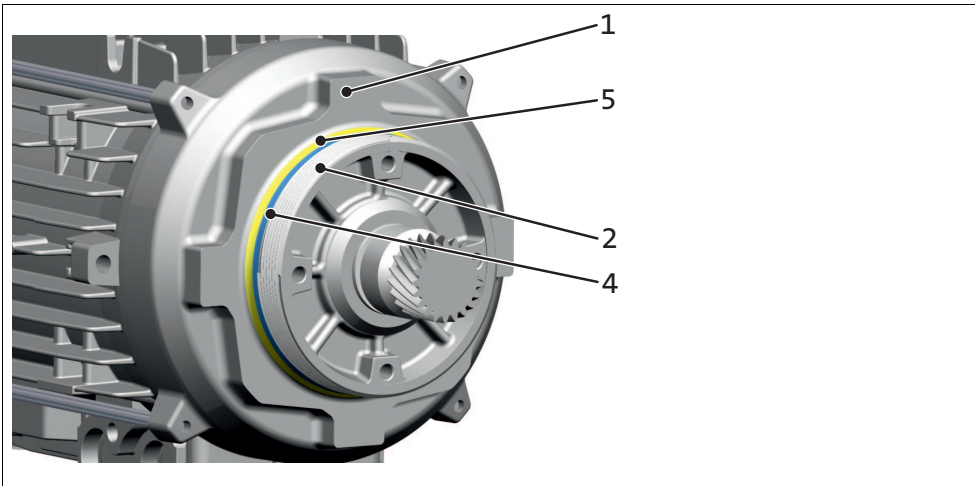
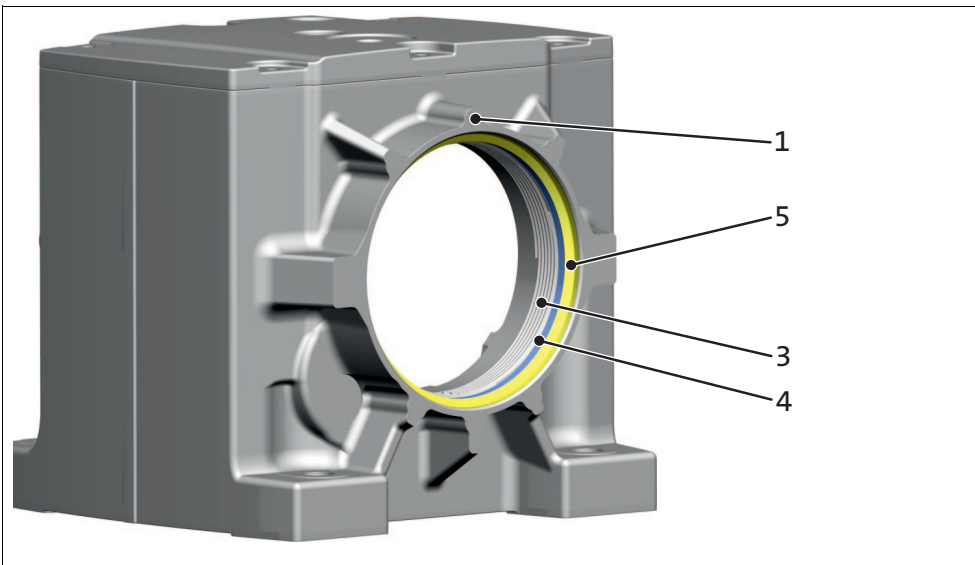

Fig. 7 Individual parts on the motor
Fig. 8 Individual parts on the gearbox
- Examine the threads, O-rings, and centering areas and the end faces for visible damage, Fig. 7.
- B Examine the thread and the O-ring and centering areas (Fig. 7 and Fig. 8) for possible traces of jamming.